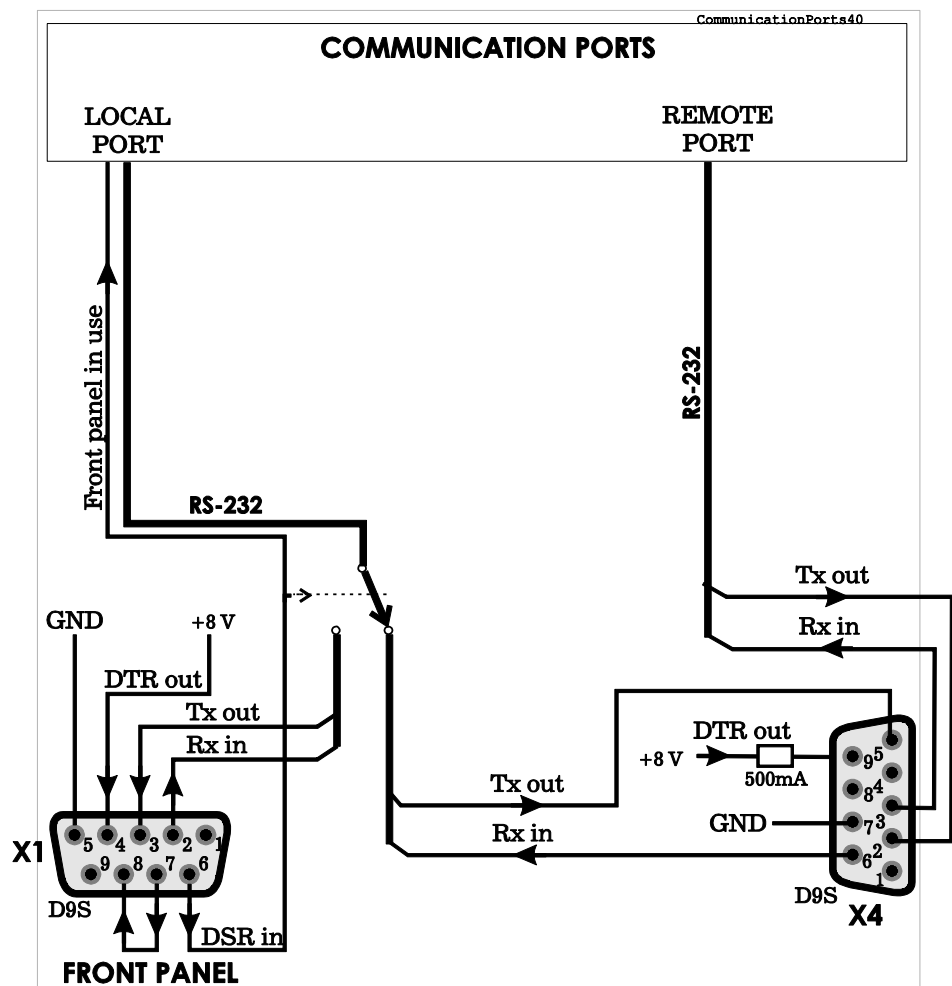

Figure 9.1-1 Communication ports and connectors. The DSR signal from the front panel port selects the active connector for the RS232 local port.
The relay has two communication ports. See Figure 9.1-1.
**NOTE!** When the VX003 cable is inserted to the front panel connector it activates the front panel port and disables the rear panel local port by connecting the DTR pin 6 and DSR pin 4 together. See Figure 9.1-1.
The physical interface of this port is RS-232. See Figure 9.1-1.